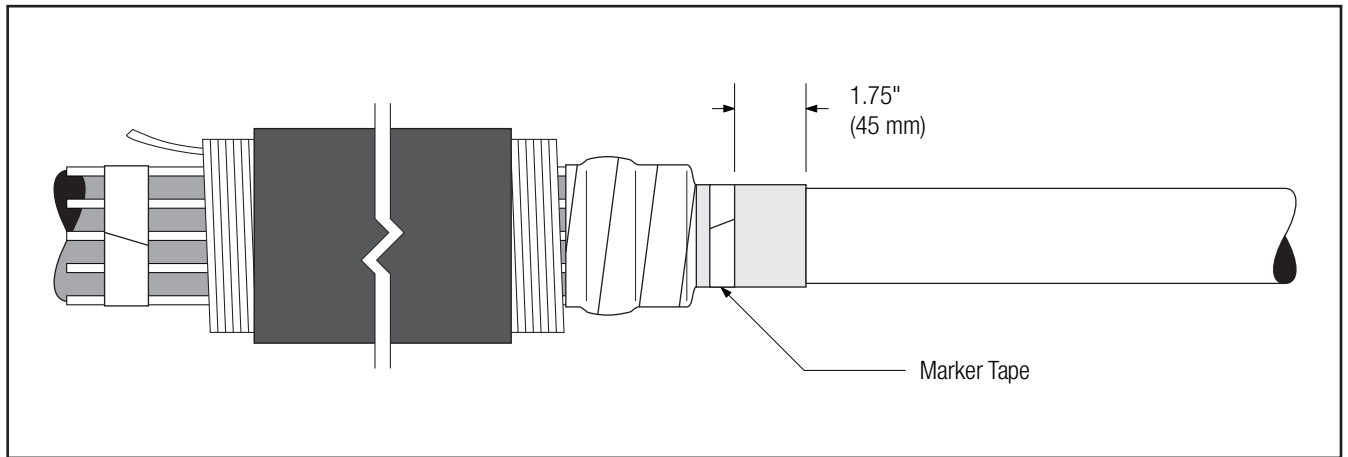

Figure 6
2.6 Place a marker tape on the cable semi-con located 1.75" (45 mm) from the end of the semi-con.(Figure 6)